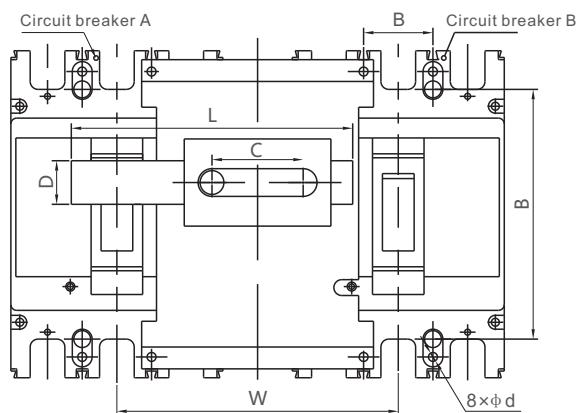

Fig 6 Mechanical interlock dimension diagarm
5.23 Installation dimension of Mechanical interlock of two circuit breakers, see Table 6 Fig 6 and Table 8.